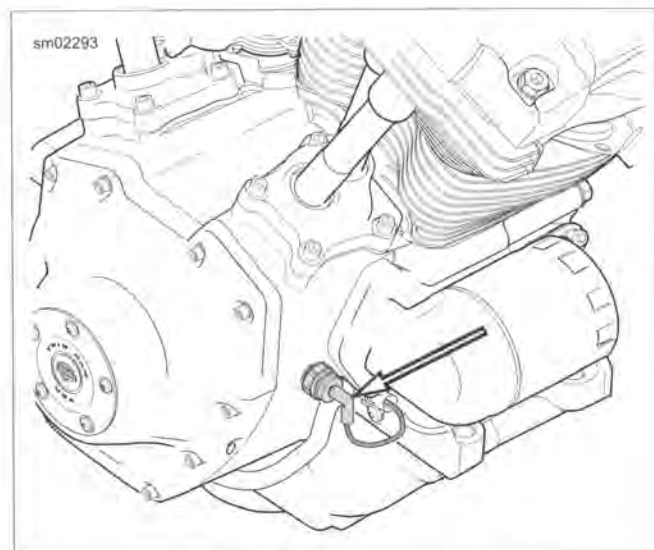

Figure 3-9. Oil Pressure Switch
2. See Figure 3-9. Remove oil pressure switch from crankcase. See 7.25 OIL PRESSURE SWITCH OR SENDER.